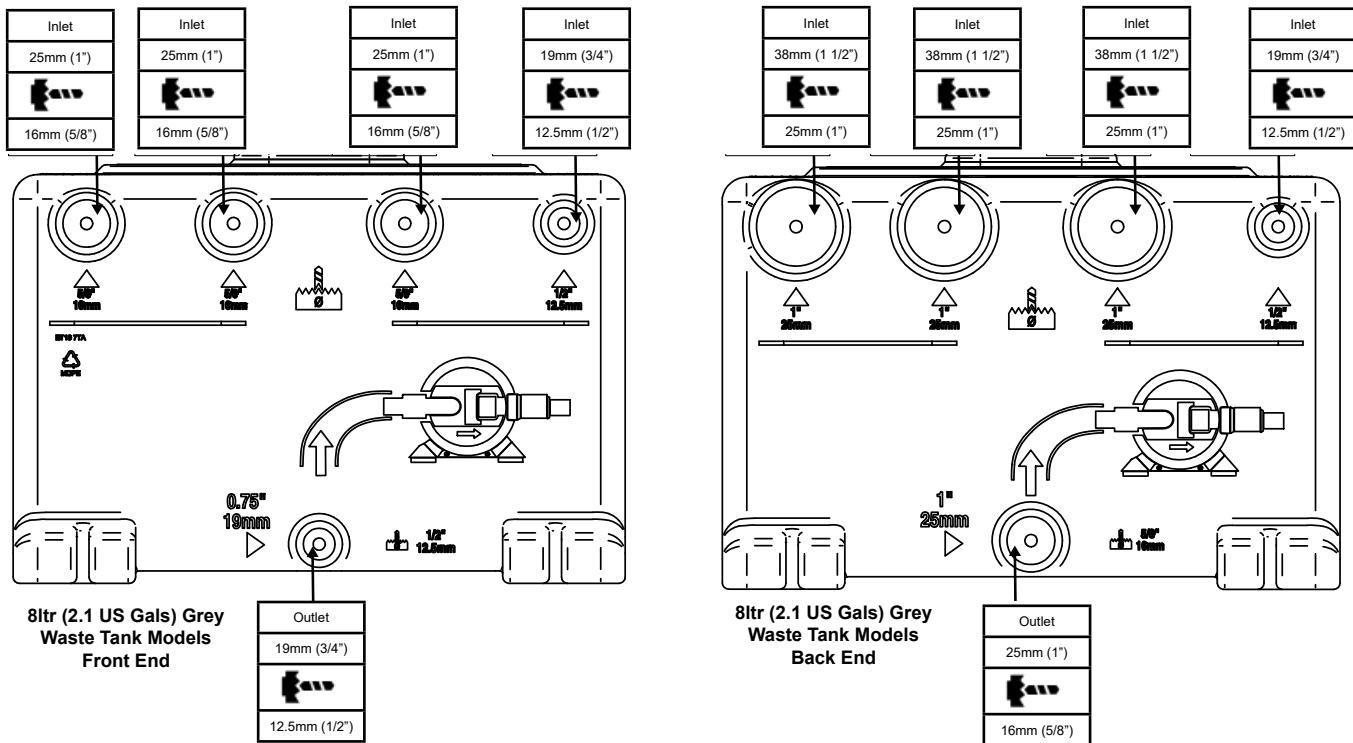

Figure 3 Port Sizes & Recommended Drill Diameters For 8ltr (2.1 US Gals) Grey Waste Tank
| Fig. 3 | Port Sizes & Recommended Drill Diameters For
Step 1: Drill only the ports which are to be used in the installation. Port sizes and recommended drill diameters are shown in Figure 3 for 8ltr (2.1 US Gals) tank. Ensure all swarf is removed from inside the tank after drilling.